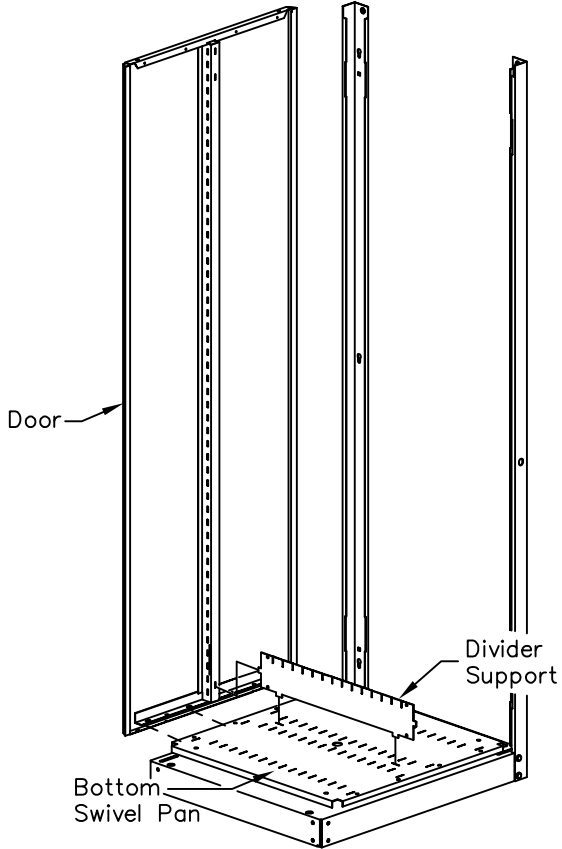

Fig 3.1 ((2) Vertical Supports not shown)
Install (2) doors, cross brace & divider support. Place the divider support into the two slots in the bottom swivel pan. Slide the first door onto the bottom swivel pan. Verify that tab on divider support engages into the door. (Fig. 3.1)